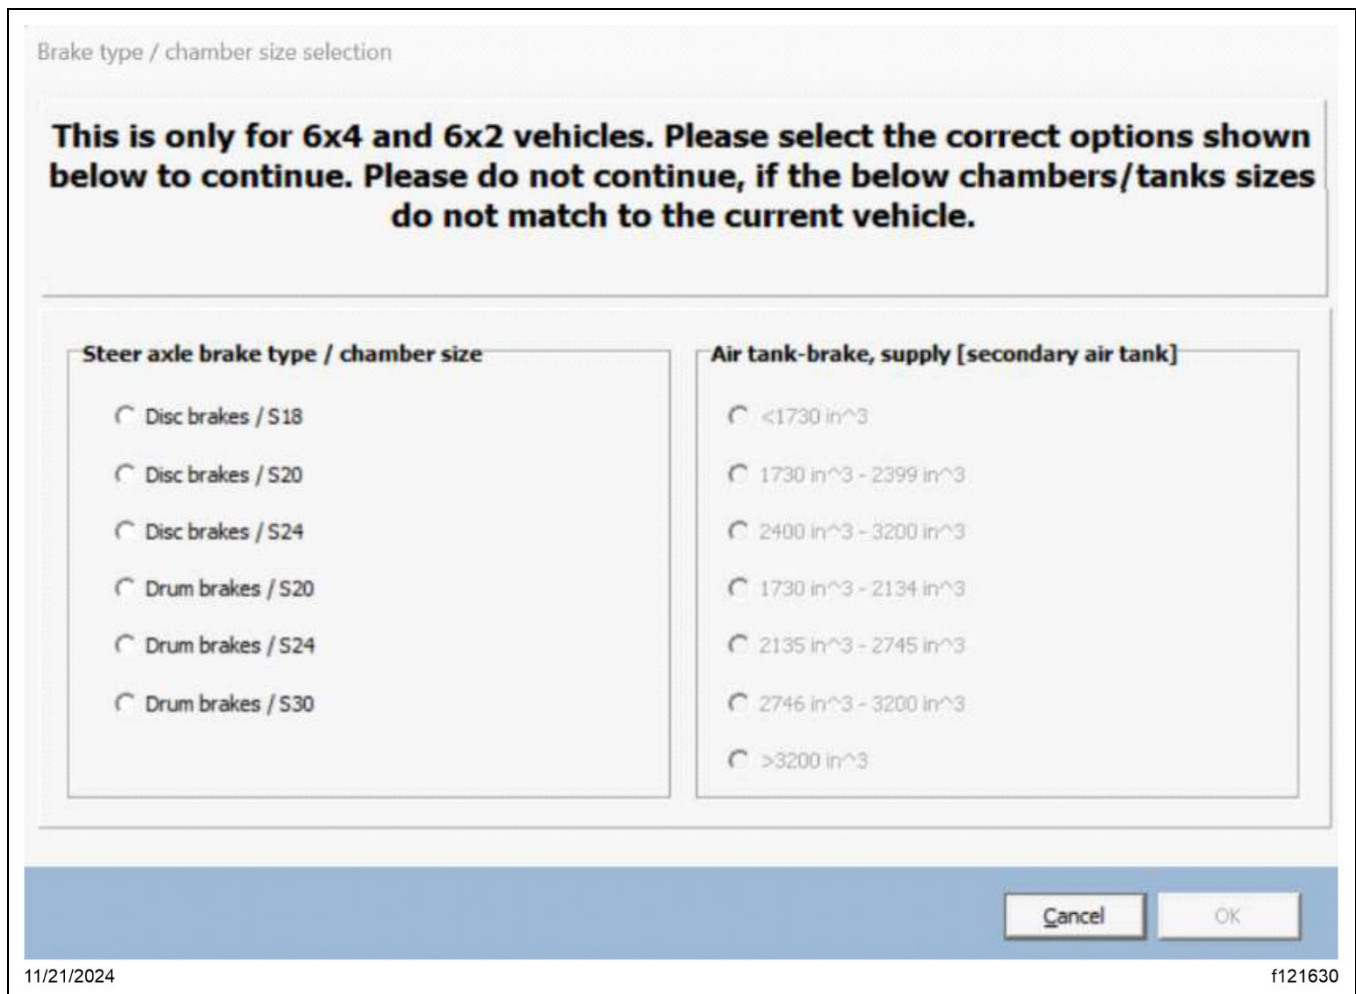

Fig. 53, GUI Selection Window
16. If the vehicle is a 6x4 or 6x2, the GUI selection window pops up after selecting the 'Write to ECU' button. A selection must be made to continue flashing the ECU. See Fig. 53.